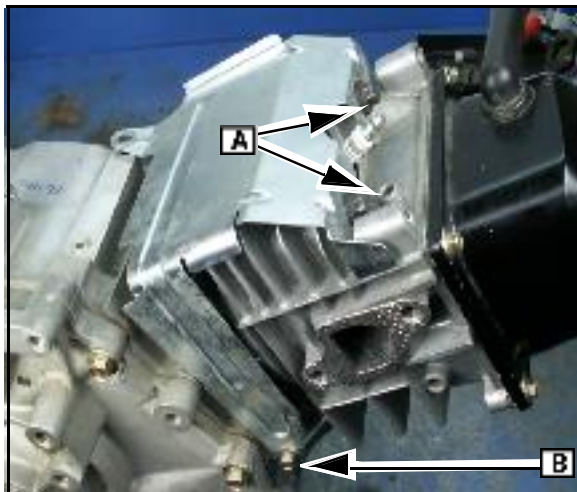

Fig. 29
1. Install the cylinder baffle using the upper head bolts (A) and one lower mounting screw (B) Fig. 29). Make sure to torque head bolts to listed values. **See SECTION 14- ENGINE SPECIFICATIONS.**